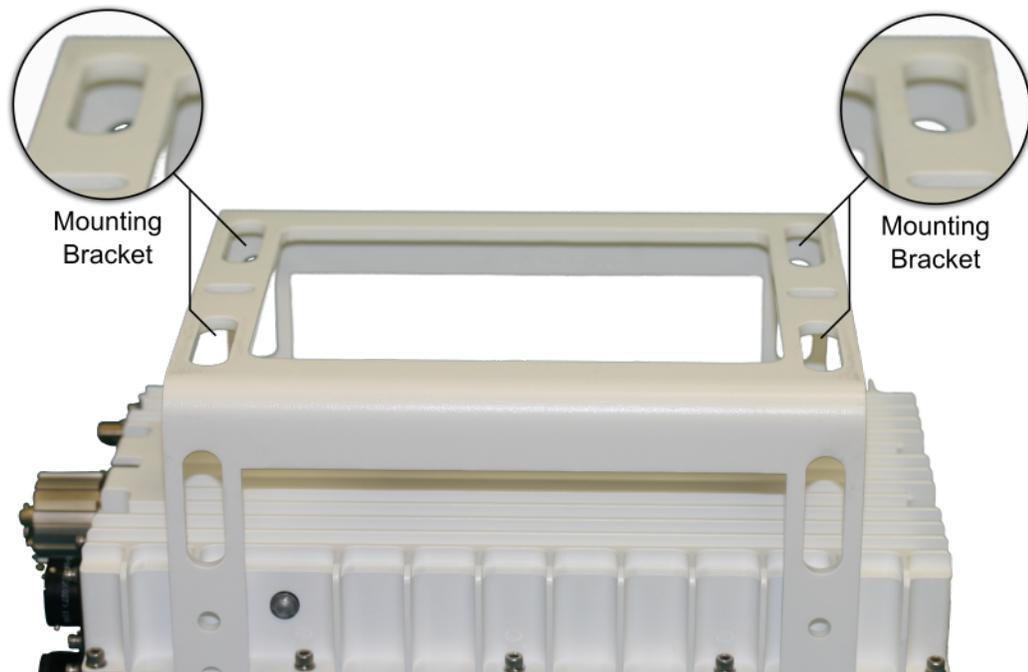

Figure 3.6 Location of Adjustment Slots on Optional Mounting Bracket
11. [Optional] Mounting brackets and bolts. See Figure 3.6 on page 3-12.
Optional mounting brackets are available that aid in attachment to antennas. The mounting slots identified in Figure 3.6 on page 3-12 give you additional flexibility when attaching the IBUC to the antenna.